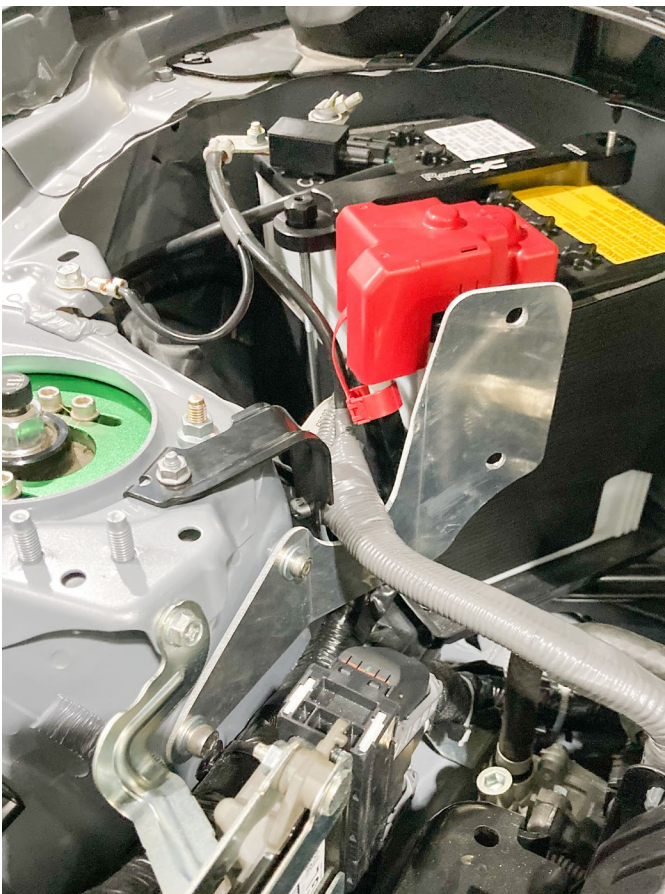

Figure 4
3. Finger tighten the bolts so the bracket can still move freely. (Fig 4)